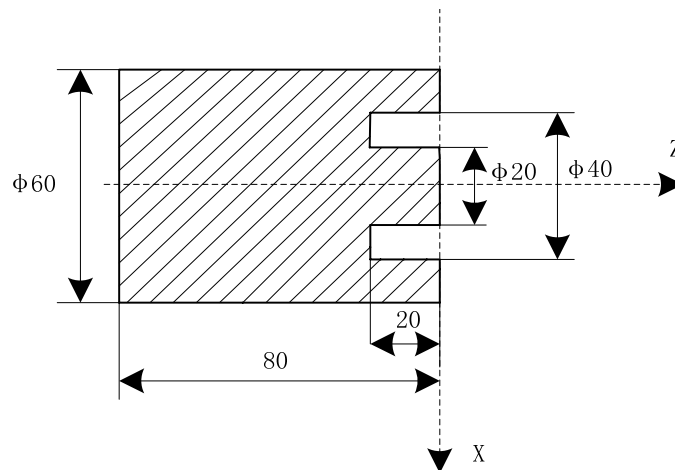

Fig.3-80
1. The cycle movement is executed by Z(W) and P( $\Delta k$ ) blocks of G74, and the movement is not executed if only "G74 R( $\Delta e$ ); " block is executed;
2.  $\Delta d$  and  $e$  are specified by the same address and whether there are Z(W) and P( $\Delta k$ ) word or not in blocks to distinguish them;
**Example:** Fig. 3-80